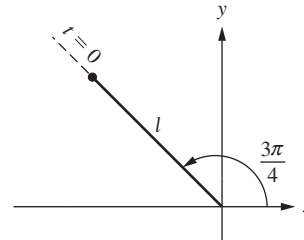

Figure P6.5 Rotating one-link robot starting at $\theta = 135^\circ$.
- 6-5.** The tip of a one-link robot is located at $\theta = 3\pi/4$ rad at time $t = 0$ s as shown in Fig. P6.5. It takes 1 s for the robot to move from $\theta = 3\pi/4$ rad to $\theta = 3\pi/4 + 2\pi$ rad. If $l = 12$ cm, plot the x - and y -components as a function of time. Also find the amplitude, frequency, period, phase angle, and time shift.